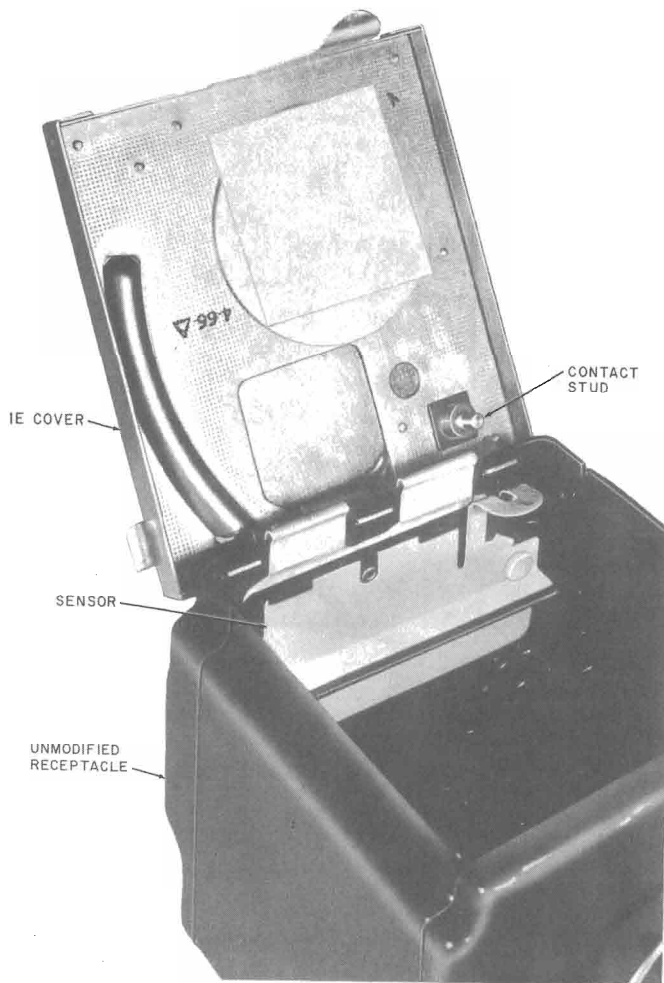

Fig. 5—Modified Coin Box
3.02 Replace the 1D coin box cover with the 1E cover (Fig. 5).
3.03 Clip the dual element sensor on the rear of the coin box (Fig. 5).
3.06 Replace existing coin box with a modified coin box (Fig. 5).